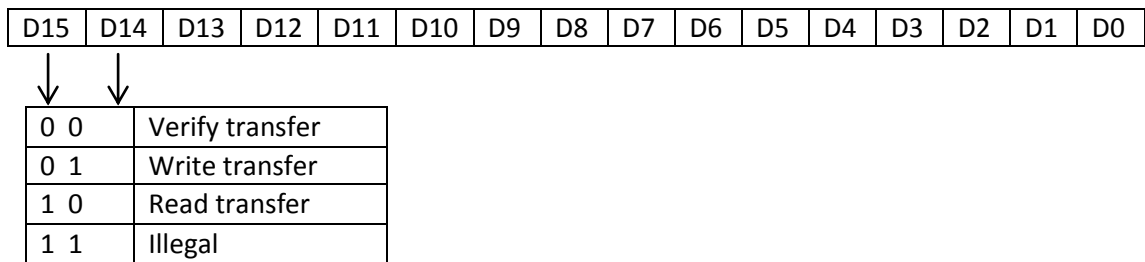

Figure 3.8: Count Register Format
- The count register is used to count the number of byte or word transferred by DMA. The format of count register is shown in figure 3.8.